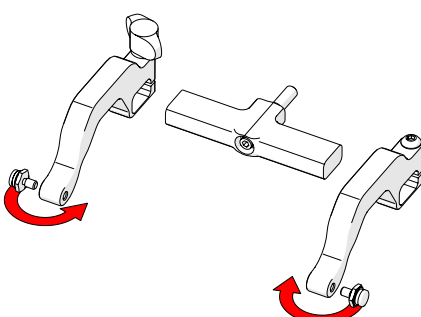

Fig. 123 - Position pivot buttons
5. Position the pivot buttons to the inside of the probe holder arms (Fig. 123).